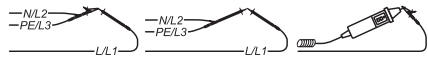

Figure 6.2.2 Test leads connection
- ▶ Short-circuit the end of the test leads in compliance with Figure 6.2.2. When dealing with the test lead equipped with an earthed plug, connect the contact pins L and N.